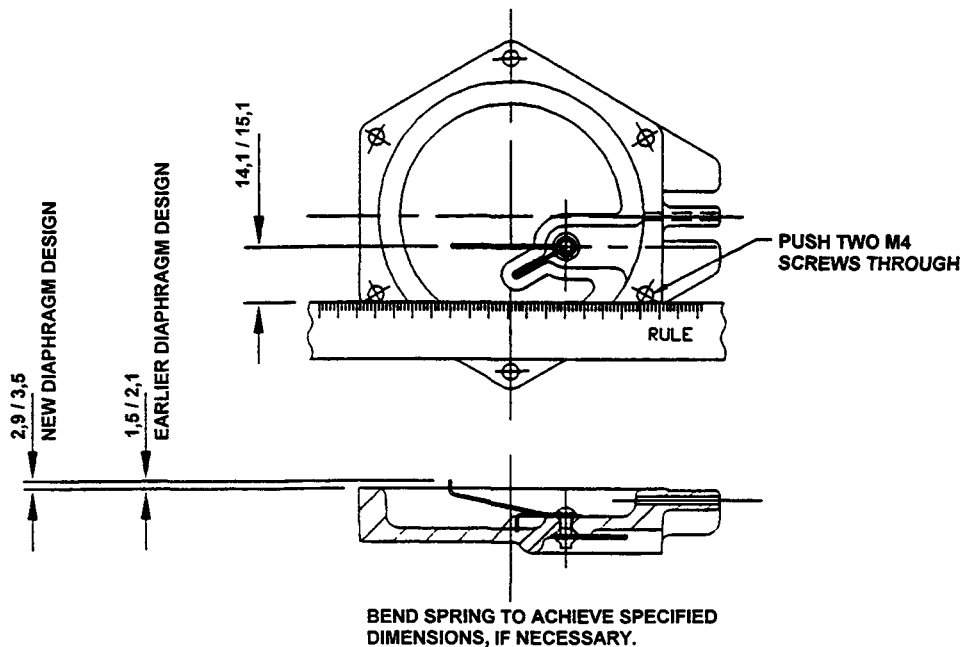

Figure 4
5. Check the switch spring position adjustment as per Fig. 4 and re-assembly the diaphragm cover assembly to the aluminium cover assembly. Torque the six M4 screws to 1,5 to 1,9 Nm.
2. Check, and if necessary, adjust the position of the end of the switch spring as shown in Figure 4.